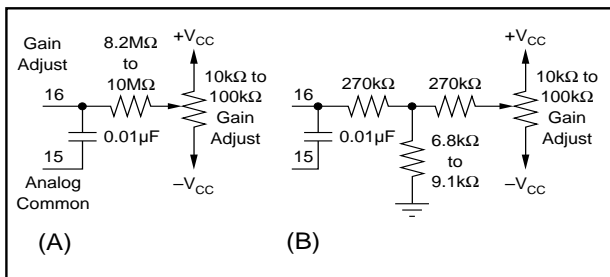

FIGURE 5. Two Methods of Connecting Optional Gain Adjust.
easily be increased a small amount by use of a low temperature coefficient potentiometer in series with the analog input signal or by decreasing the value of the gain adjust series resistor in Figure 5.
**GAIN**—Connect the gain adjust potentiometer as shown in Figure 5. Set the input voltage to the nominal plus full-scale value minus 3/2LSB. Once again referring to Table I, this value is  $+10V - 7.32mV$  or  $+9.99268V$  for the  $-10V$  to  $+10V$  range. Adjust the gain potentiometer until the output code is alternating between 000H and 001H with an approximate 50% duty cycle. As in the case of offset adjustment, this procedure sets the converter end-point transitions to a precisely known value.